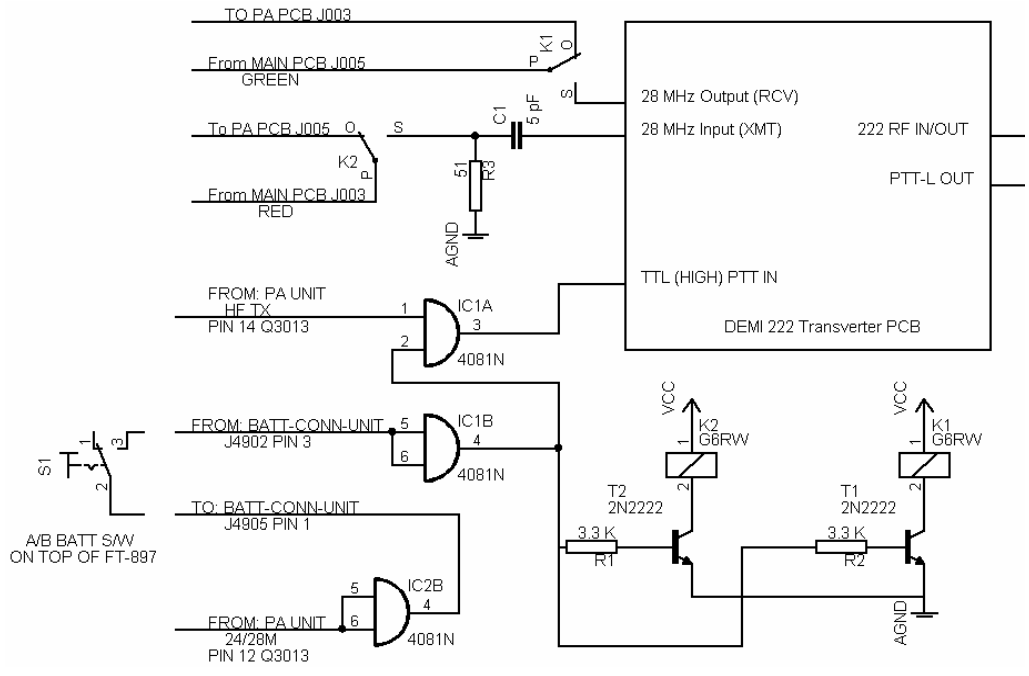
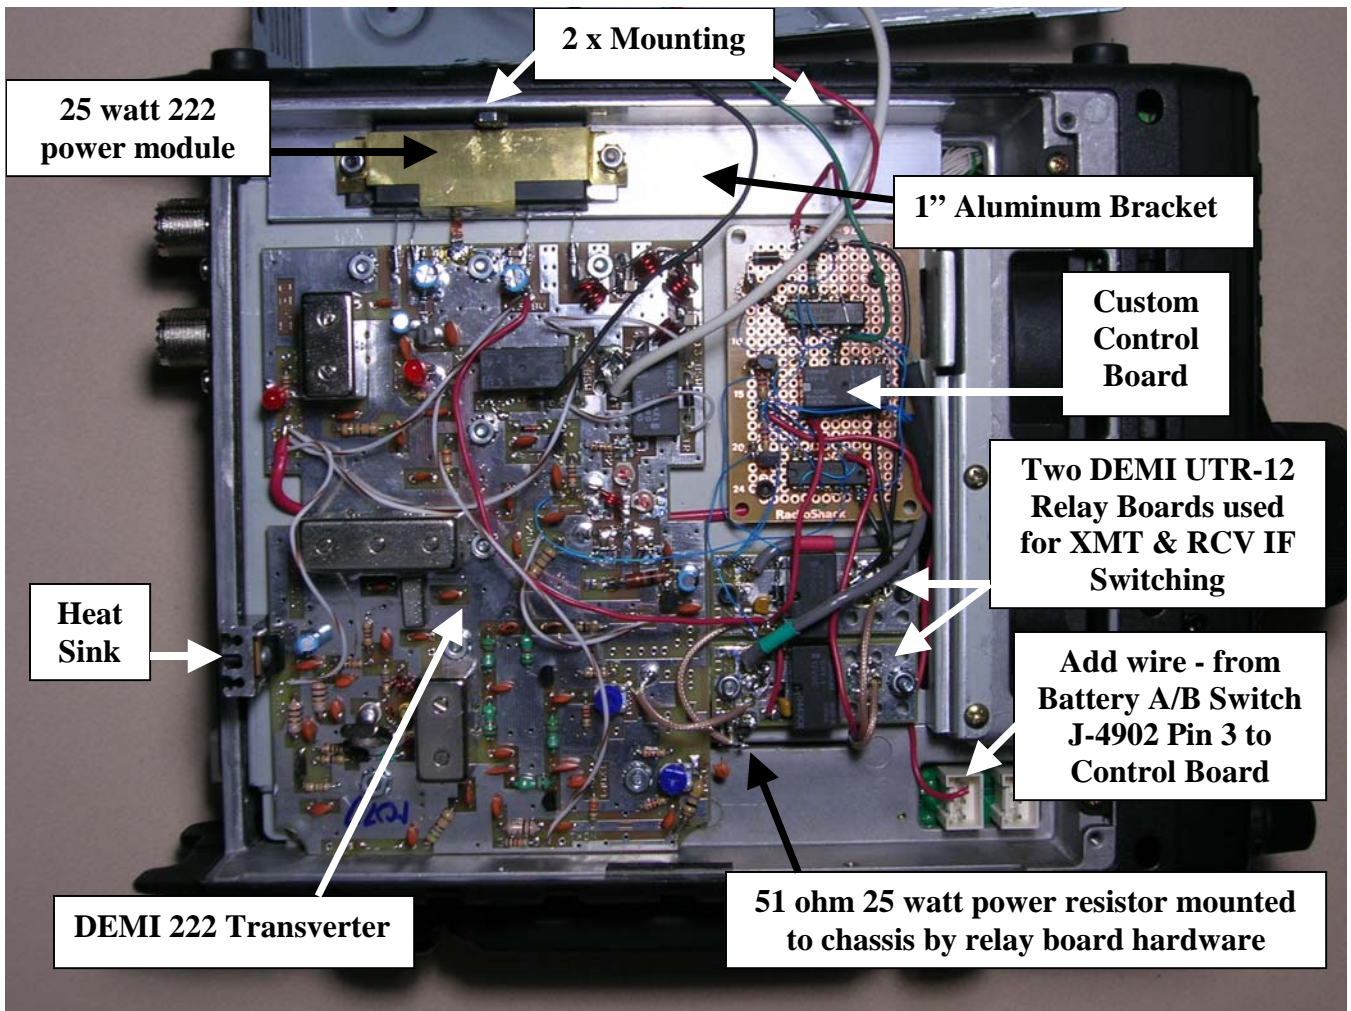
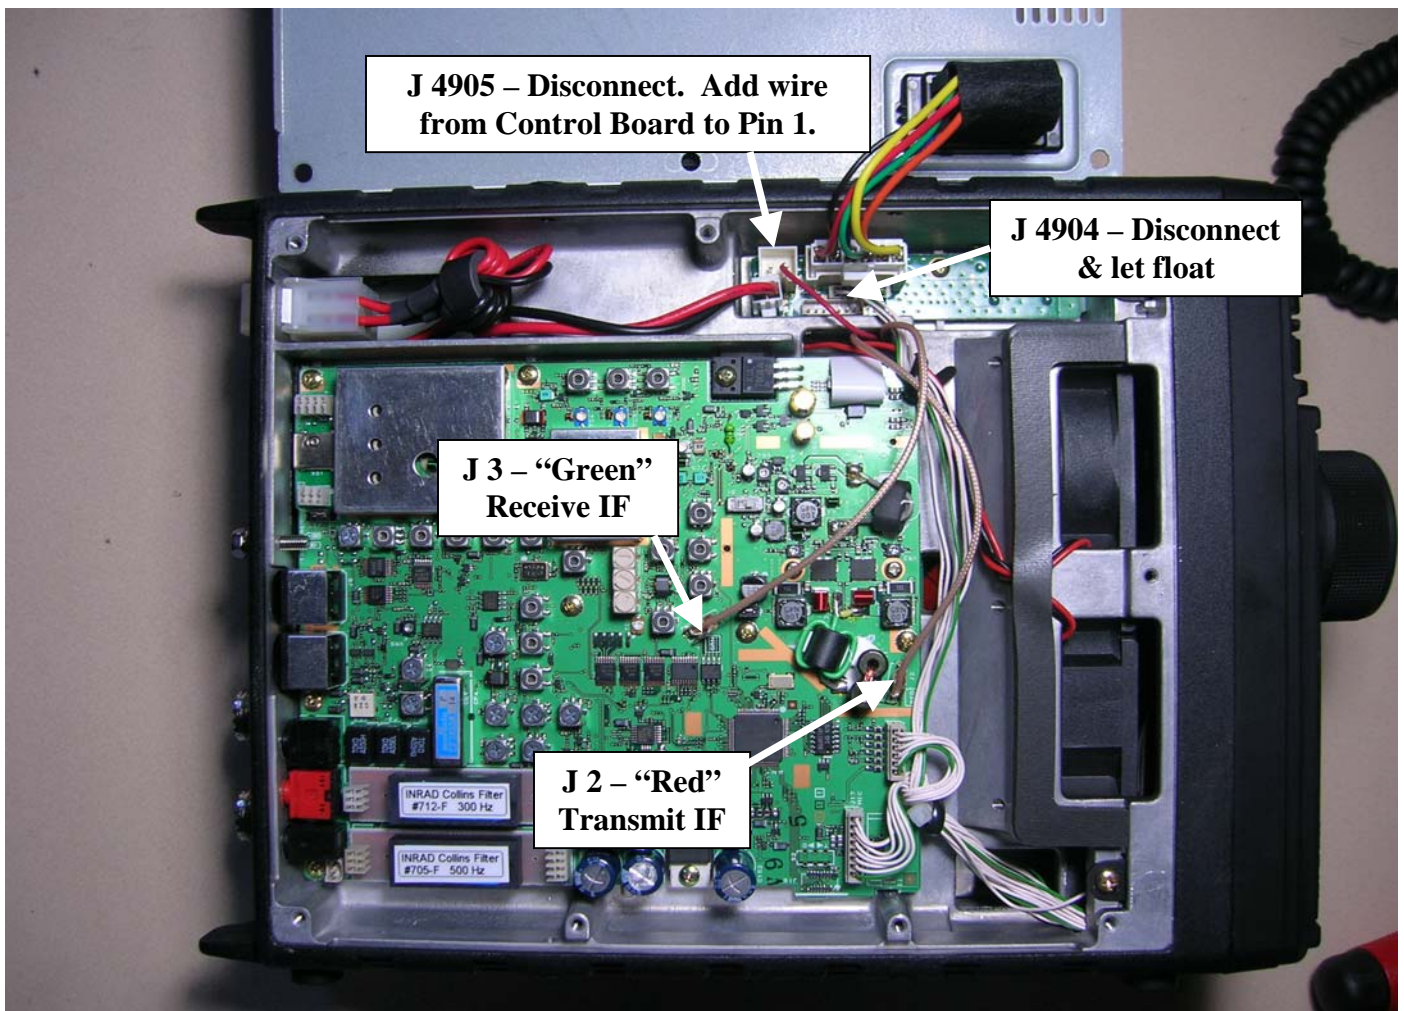

Figure 1 - Schematic For Custom Control Board
Figure 2 – FT-897 Bottom View (Battery Bay) With Added Transverter
Figure 3 – FT-897 Top View Showing XMT & RCV IF Lines Along With A/B Battery Switch Modifications.
Along with adding the DEM transverter and two IF relays, the design includes a small custom circuit board for control. The custom control board schematic is shown in Figure 1. Understanding how the control circuit works helps to understand the basic modification. Please review Figure 1 while you read the next several paragraphs.
Looking at Figure 1 you can see that the two RF relays are controlled by the effective ANDing of two inputs. The first input is the position of the FT-897's A/B battery select rocker switch while the second signal is an internal control signal that is active whenever the user selects the 10m band.
ANDing the same signal from above with a second control signal that is generated on the FT-897's PA board achieves 222 MHz PTT control. That second signal is the "HF TX" signal. The ANDed signal creates a PTT-H (PTT high) signal that is used with the DEM PTT-H input control (see Figure 1).
- Step 2. Mechanical modifications (Reference Figure 2). Remove the top and bottom covers to the FT-897. With the radio upside down, identify the shield plate that forms the bottom of the battery compartment. It is held in place with eight screws. Remove these eight screws and lift off the plate exposing the PA board underneath. You will need to determine how the transverter will mount onto this plate, along with the two RF relay boards and the custom control PCB. You will need to consider how the transverter will fit while still allowing access to the eight mounting screws. Don't forget to add a heat sink to the DEM transverter's 9 vdc regulator as the heat sink will occupy some space. It is best to lay the two relays, the transverter board, the customer circuit board, and the 222 power module all inside the radio before you start to drill holes. The 222 MHz power module is attached to a length of 1" aluminum angle bracket that is itself then attached to the side of the FT-897 using the two tapped holes that are intended for the mobile bracket. I did have to file down the top of the aluminum bracket just a little bit in order for the bottom cover to properly fit. Its best to mock up the planned layout, then lay the cover back on to see if it will indeed all fit as intended. Once you have determined how the boards will be positioned mark and drill holes accordingly. In my design I used 4-40 hardware to mount the DEM transverter PCB to the shield plate much like how DEM mounts their boards inside their box. The SO-239 panel mount can be mounted in one of the two battery connector holes that are protected with a plastic knock-out. Simply remove the plastic knock out and drill the necessary mounting holes. As you are marking the location for drilling any holes, make sure that you double check for interference issues when you go to reassemble the radio. It is best to complete all the mechanical modifications before proceeding onto the electrical modifications.
- Locate the battery selector PCB and lift connectors J 4904 and J 4905 (see Figure 3). This will electrically isolate the rocker switch from its intended function. The connectors can be allowed to float.
- Review Figure 3 and find the two IF lines. The receive line is connected to J3 and has a green band on it while the transmit line is connected to J2 and has a red band on it. Disconnect these two lines and route them to their appropriate relay (see Figure 2). I cut the little stock mini-connector off of mine and solder then directly to the DEM UTR-12 PC board. You will need some mini-coax to then run from the normally closed contacts back to J2 and J3 on the main board. On the receive IF line, the normally open relay contact is connected directly to the transverters 28 MHz receive port. On the transmit IF line the normally open relay contact is connected to a 25 watt, 51 ohm RF power resistor to dissipate the 10 watts that is present. I mounted my power resistor to the shield plate where it is held in place by the same hardware that holds one of the UTR-12 relays. A small 5 pf capacitor is then connected from that point to the transverters 28 MHz transmit input port.
- Connect the A/B battery select rocker switch as follows. Connect a wire from the control board (per the Figure 1 schematic) to the battery board J-4902 connector, pin 3 (see Figure 2) and battery board connector J-4905, pin 1 (see Figure 3).
- Finish all wiring. Connect the appropriate line from the control board (Figure 1) to the DEM transverter PTT-H line. Also make sure that the transverter board is connected to 13.8 vdc. I installed the PWR and XMT LEDs on the DEM transverter board to help me detect proper operation.